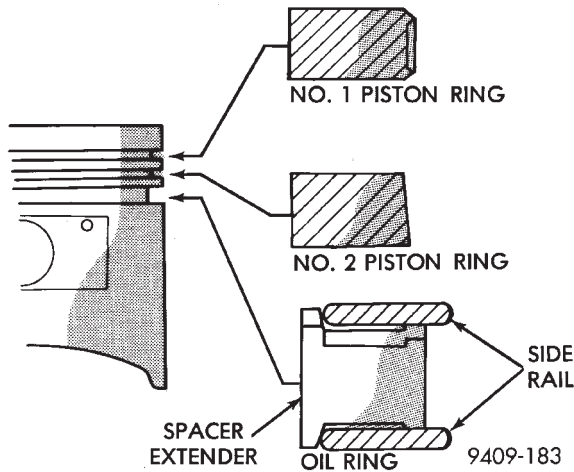

Fig. 81 Piston Ring—Installation
- (1) The No. 1 and No. 2 piston rings have a different cross section. Install rings with manufacturers mark and size mark facing up, to the top of the piston (Fig. 81).